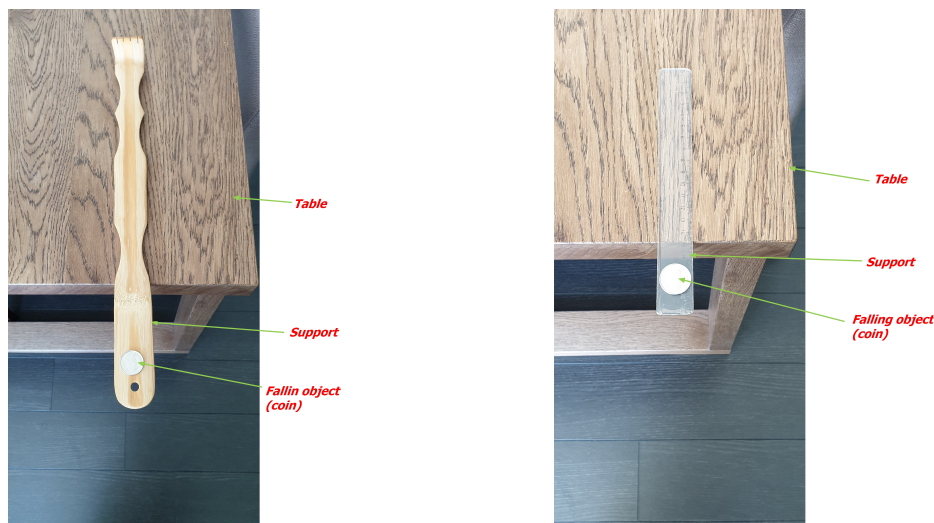

Figure 1.1: The falling object (here a coin) sitting on the end part of the support (here a wooden rectangular object or a plastic ruler).
Step 1 Place the support on a table in your home such that a small part of the support is not on the surface of the table (Fig. 1.1)
Step 3 Place the falling object near the end part of the support which is off the table’s surface (Fig. 1.1)